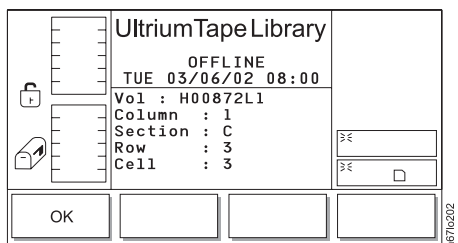

Figure 4-39. Media Information Dialog
- Press the button below the **Up** or **Down** softkey to move the selection bar and highlight the cartridge that you want, then press the button below the **Select** softkey. The Media Information Dialog displays (see Figure 4-39).